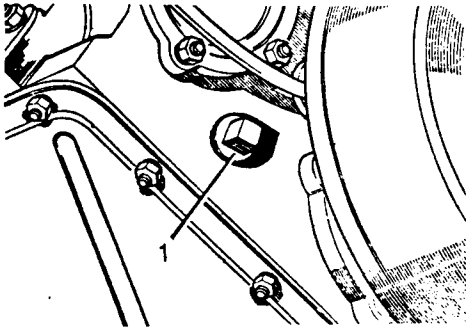

Fig H2.31
- (1) Refer to Fig H2.31. Remove the filler level plug (1) on the rear face of the transfer box.
- (2) Check that the oil level is up to the bottom of the filler plug hole.
- (3) If necessary, pour oil into the filler plug hole to bring the oil up to this level.
- (4) Allow excess oil to drain through the filler hole.
- (5) Replace and tighten the filler hole plug using a new gasket.
- (6) Wipe off excess oil around the filler plug.
- (1) Place a container under the transfer box of sufficient capacity to hold 2,5 litre of old oil.
- (2) Remove the transfer box filler plug ((1) on Fig H2.31).